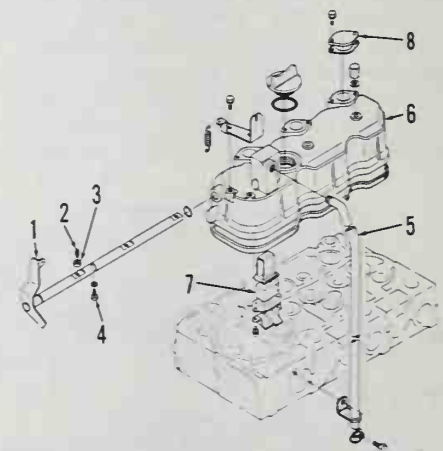

Fig. K3-5—Exploded view of valve cover and compression release components.
All models are equipped with a compression release which holds exhaust valves open slightly when compression release lever (1—Fig. K3-5) is rotated. To adjust compression release, rotate engine crankshaft so piston in cylinder being adjusted is at top dead center on compression. Remove cover (8), loosen locknut (3) and back out adjusting screw (2). Rotate compression release lever to engaged position. Turn adjusting screw (2) in until it contacts exhaust rocker arm, then turn screw an additional 1½ turns. Tighten locknut and adjust remaining cylinders. Check operation of compression release being sure exhaust valves do not contact pistons.